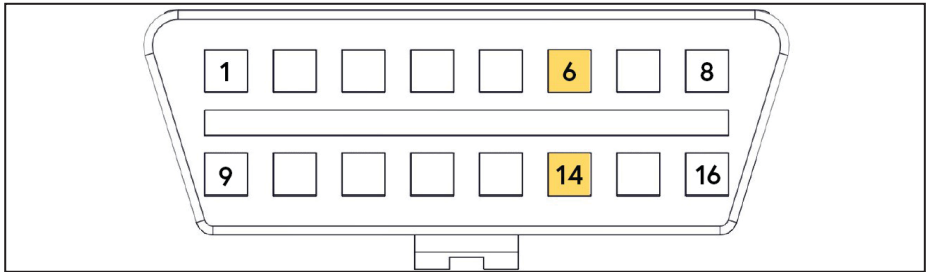

Figure 34 — OBD II connector
- Splice the light blue wire from the throttle control to the wire at pin 6 of the OBD II port (brown wire at time of writing) (Figure 34).
- Splice the grey wire from the throttle control to the wire at pin 14 of the OBD II port (yellow wire at time of writing) (Figure 34).